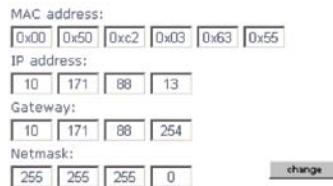

Figure 5—Default network settings
a) Network configuration—The default network configuration, after the demo binary code image is programmed, is shown in Figure 5. The user needs to ensure that each board has a unique Ethernet and IP address. The settings can be changed by the user, and permanently saved into the flash memory by clicking the “change” button in Figure 5.